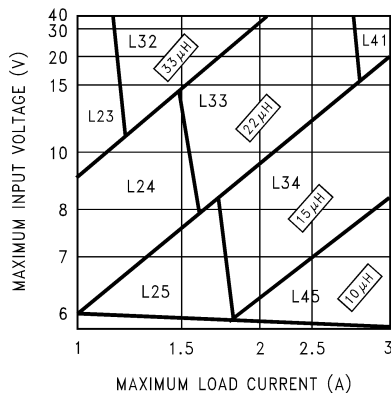

Figure 7-2. LM2676-3.3
Step 3: Use the nomograph for the 3.3-V device (Figure 7-2). The intersection of the 16-V horizontal line (V_{IN} max) and the 2.5-A vertical line (I_{LOAD} max) indicates that L33, a 22- μH inductor, is required.